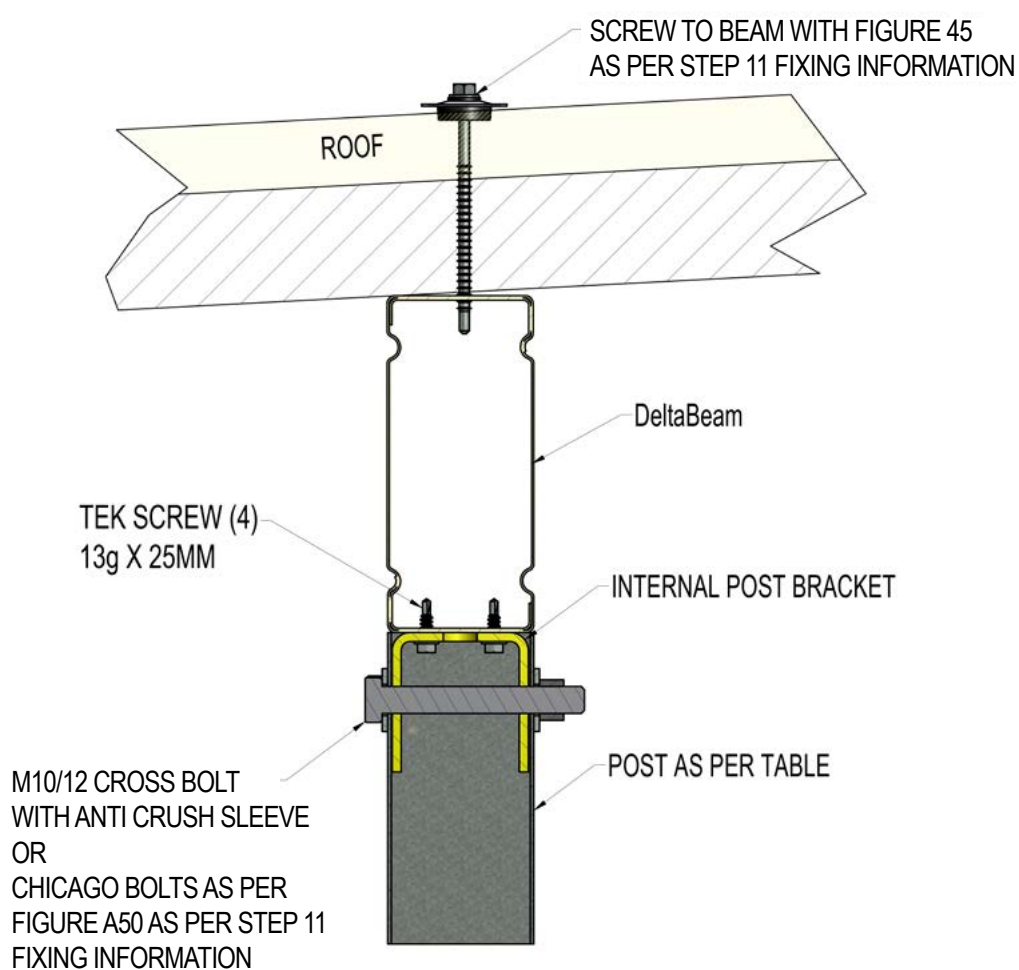

Figure A23
STEP 8**SELECT BEAM TO POST CONNECTION TYPE****Delta™ Steel or Aluminium Beam to Post (see Figure A23)**